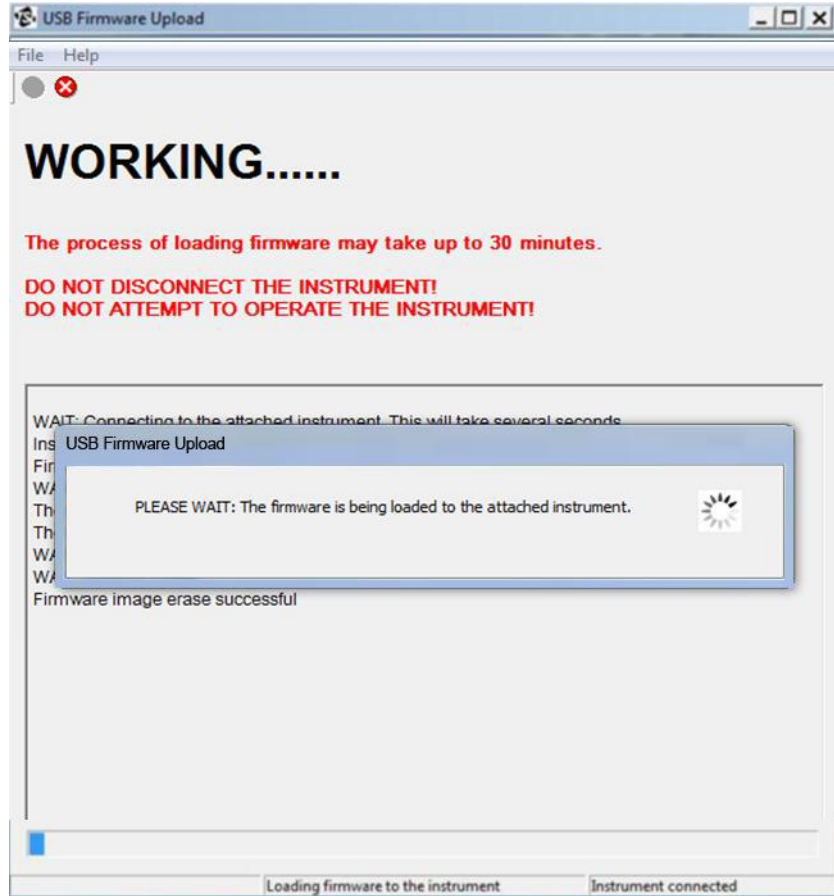

Figure 12
10. The process of updating firmware on an instrument erases and writes a series of firmware images. The number of images depends on the instrument and the released firmware. The status box of the application will list the firmware update tasks as completed. The progress bar of the application will update as the firmware images are written to the device (Figure 12).